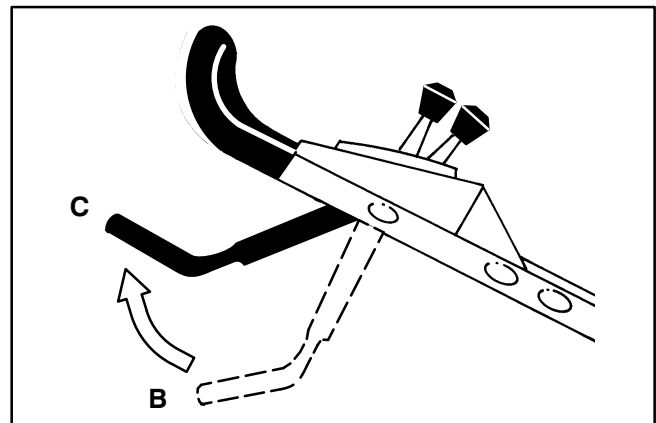

Figure 19
8. Bring the control bar up into the mid position (about 5 inches below the handle cross bar) (Fig. 19, position C).
9. Release control bar (Fig. 19, position B).